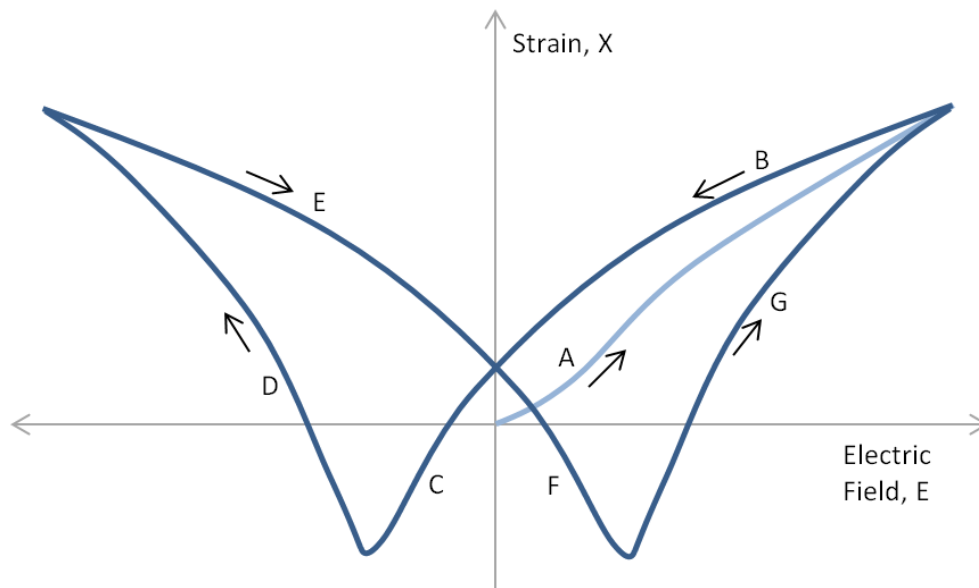

Figure C-1: Strain (displacement) behavior of a ferroelectric material like PZT with an applied electric field driven to its excitation limits
Piezoelectric materials are a subset of a larger class of materials known as ferroelectrics. Ferroelectricity is a property of certain materials that have a spontaneous electric polarization that can be reversed by the application of an electric field. Like the magnetic equivalent (ferromagnetic materials), ferroelectric materials exhibit hysteresis loops based on the applied electric field and the history of that applied electric field. Figure C-1 shows an illustration of a strain (X) versus electric field (E) "butterfly" curve for a PZT material driven to its excitation limits.